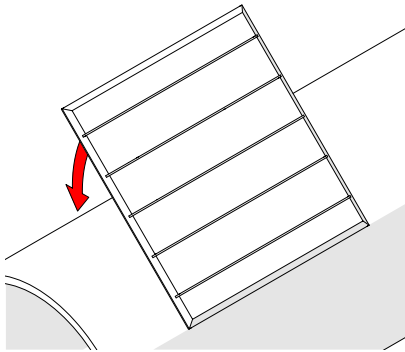

Fig. 80 - Place installation/removal mat
3. Place the installation/removal mat on the inspection surface (Fig. 80).